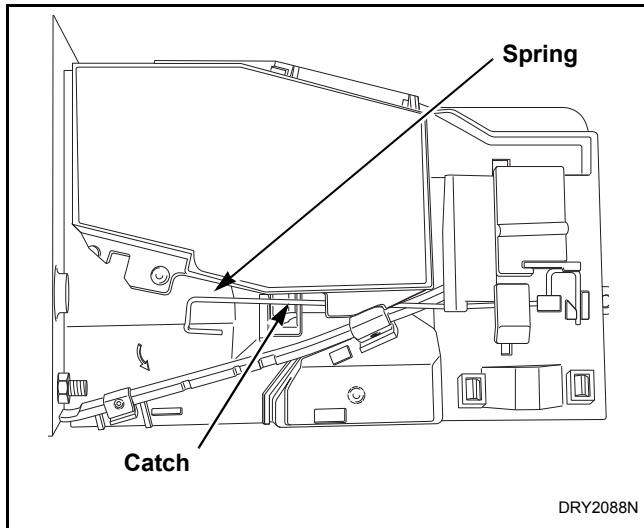

Figure 24
**Coin Drops with Old-Style Spring (refer to Figure 24):**
- (1) Move spring downward until cover catch is free. Refer to *Figure 24*.